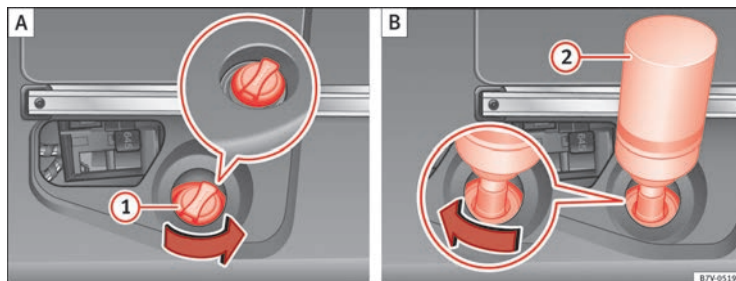

Fig. 168 AdBlue tank with filler neck cap and refilling bottle
- Unscrew the tank filler neck cap ⇒ Fig. 168 ① anticlockwise.
- Screw on the tank filler neck cap ⇒ Fig. 168 ① clockwise until it is fully inserted.